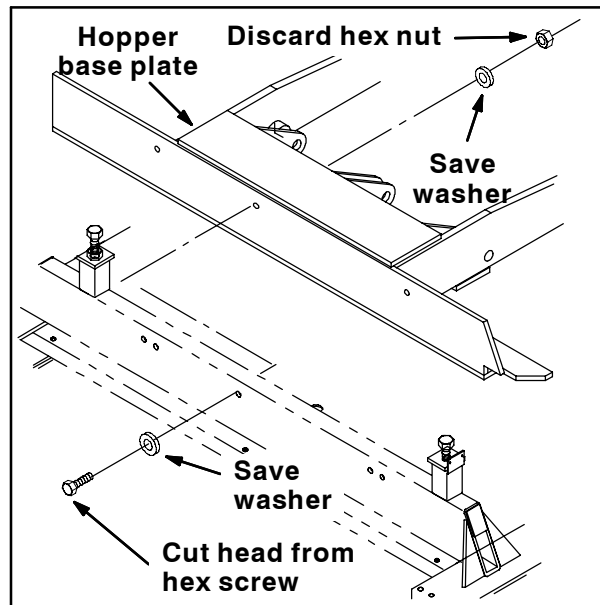

FIG. 6
5. Remove the hex nut and washer from the hex screw protruding through the hopper base plate and frame. Cut the head from the screw and remove the screw and other washers from the machine. Set two washers aside. Discard the hex screw, hex nut, and remaining washer. Refer to Fig. 6.